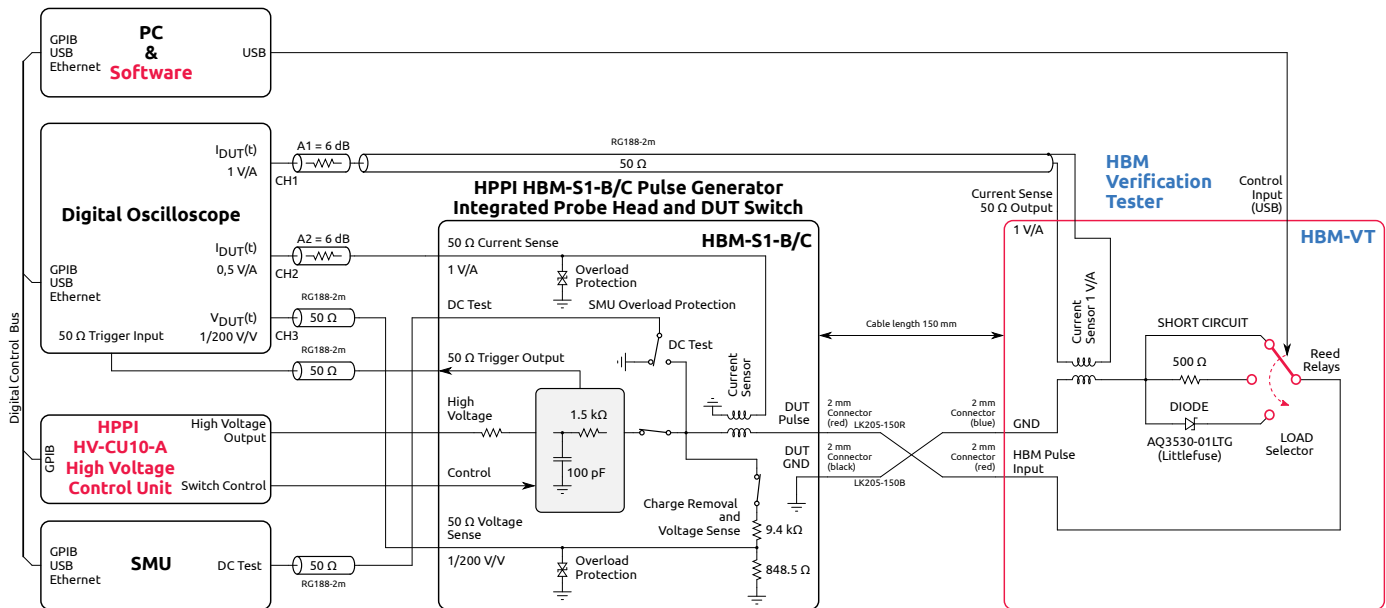
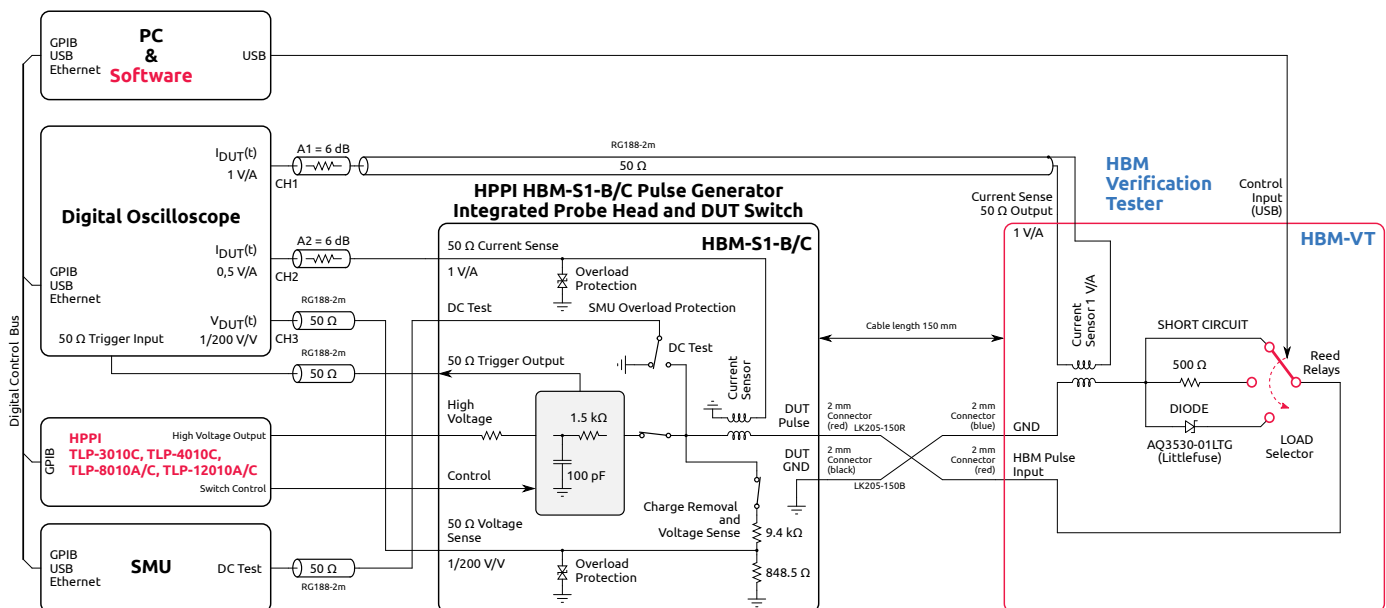

Figure 1: HBM verification test setup using HV-CU10-A (HBM-TS10-A) as controller
Figure 2: HBM verification test setup using TLP-3010C/4010C/8010A/8010C as controller
Fig. 1 and Fig. 2 show a typical test setup. The HV-CU10-A (HBM-TS10-A) or TLP-3010C/4010C/8010A/8010C systems can be used to control the HBM-VT.
1. using HBM stand-alone test system HBM-TS10-A including HV-CU10-A high voltage control unit, as shown in Fig. 1.
2. using TLP-3010C, TLP-4010C or TLP-8010A/C systems as controller, as shown in Fig. 2.